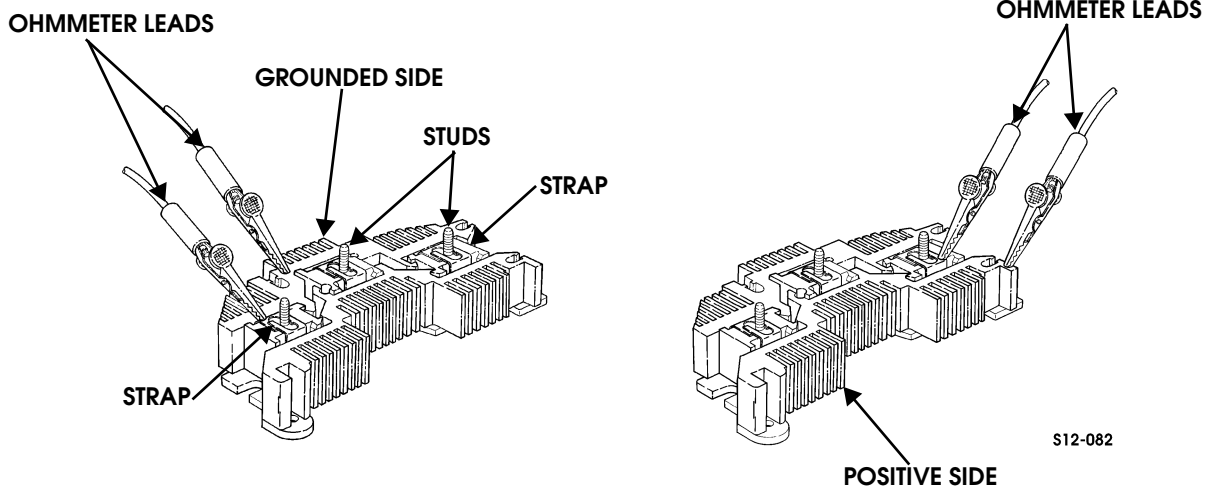

Figure 12-41: Rectifier Bridge Check
2. Connect the ohmmeter leads to the grounded side and strap as shown and take readings at each strap (Figure 12-41).
5. Connect ohmmeter leads on positive side and strap as shown, and take readings at each strap (Figure 12-41).